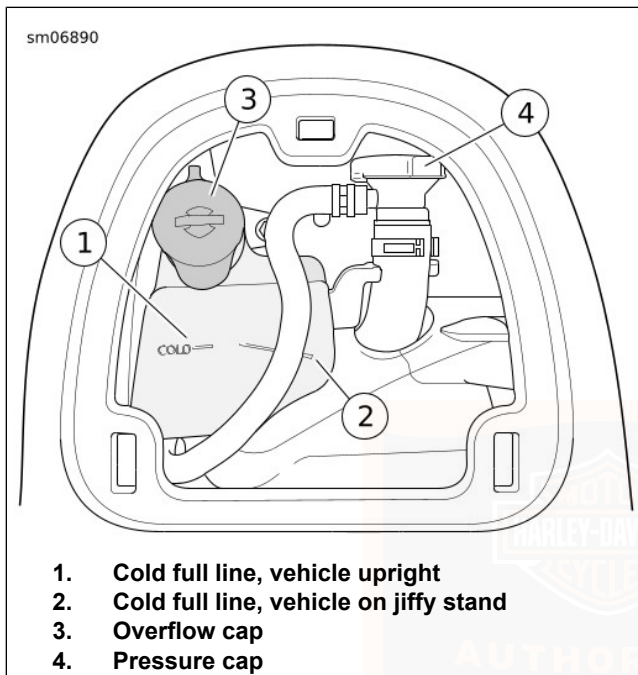

Figure 56. Coolant Level
See Figure 56. The coolant bottle has two lines. Use the angled line (2) when the motorcycle is leaning on the jiffy stand.
2. See Figure 56. Check that coolant level in coolant bottle is at or slightly above the "COLD" line (1).